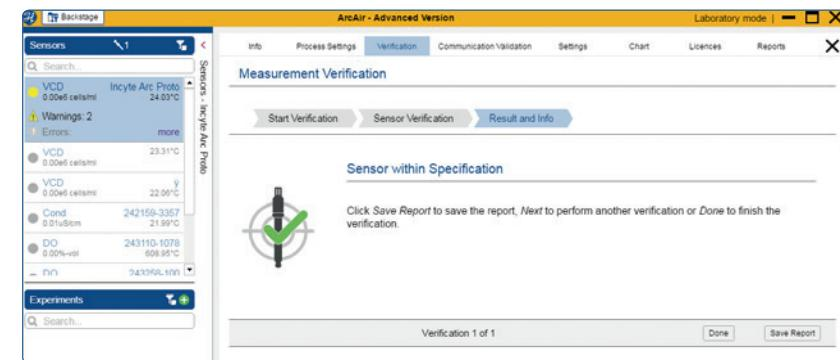

Figure 30: Succesfull Sensor Verification
- 9) The successful verification is shown, in case the verification was not successful press done and try again once (figure 30).